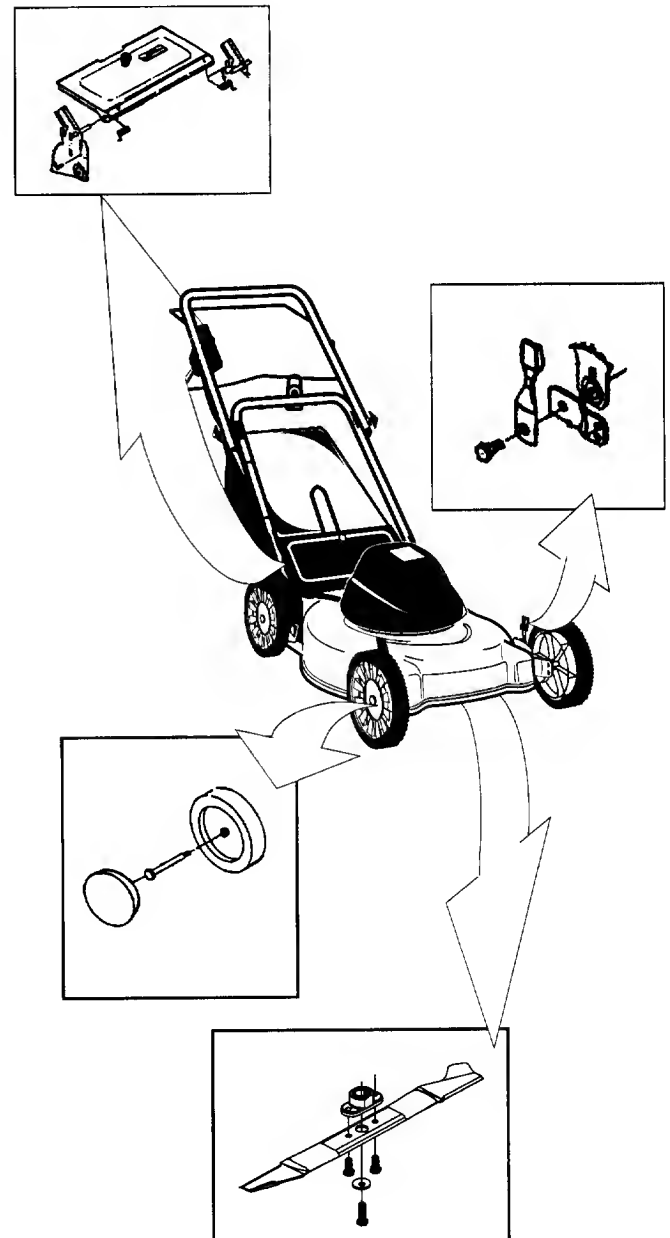

Figure 14 -- Lubrication Chart
- Keep unit well lubricated. Lubricate the springs on the rear discharge door with a light oil. See figure 14.
- Lubricate the bolts holding the height adjustment lever to the deck with a light oil. See figure 14.
surface of the wheel with light oil. See figure 14.
- If you are reassembling the blade and the blade adapter to the unit, lubricate the motor shaft and the inner surface of the blade adapter with light oil (or engine oil). See figure 14.
- Also lubricate the bolt holes, bolts and inner surface of the nuts in the blade adapter assembly before reassembly. See figure 14.